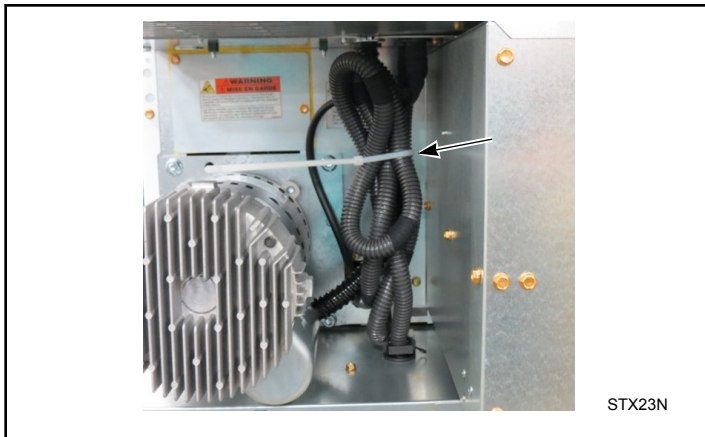

Figure 12
7. If possible, leave the harness bundled and secured with the wire tie. If you have trouble with Step 8, you may need to cut the tie and give slack to the harness. Refer to *Figure 12*.